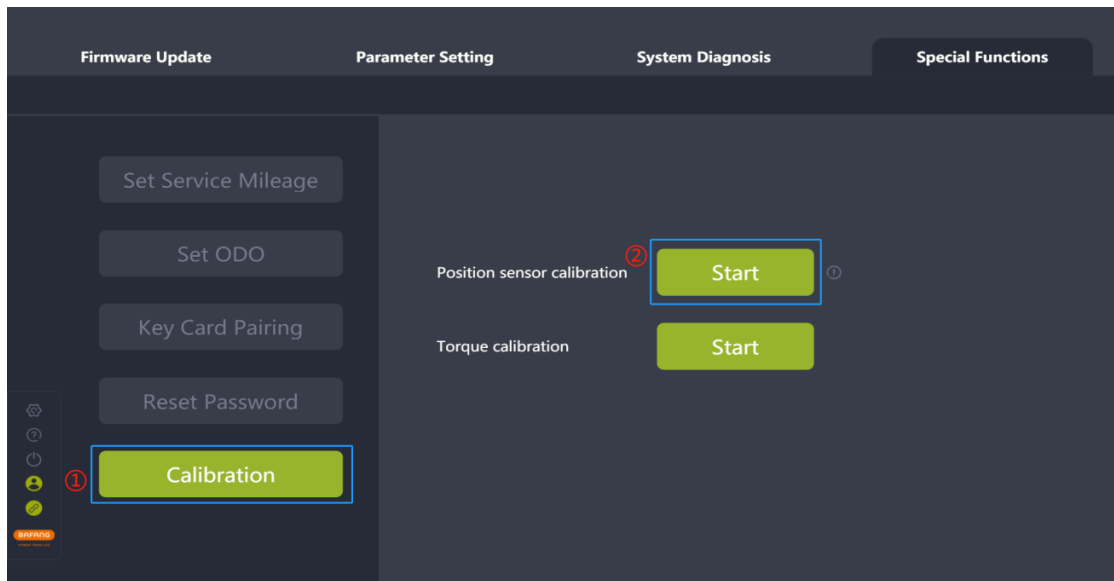

Fig. 7-6 Position sensor calibration
- (1) Connect the BESST Box to the controller and select the "Calibration" icon;
- (2) Click the "Start" icon next to the tag "Position sensor calibration" to start the position sensor calibration (e.g. Fig. 7-6).